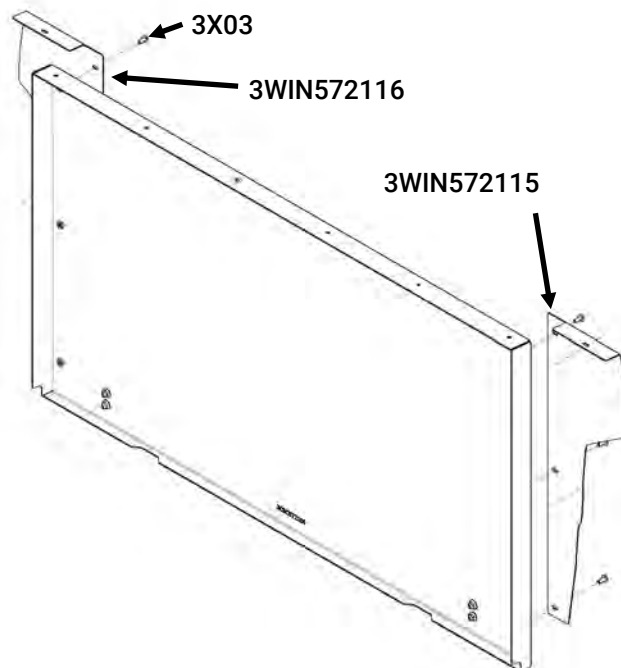

Figure 6
- A. Place the Driver Wing [3WIN572116] against the front of the panel, align the holes and fasten using (3) 1/4 -20 x 5/8" Phillips head screws [3X03]. (Figure 6)
- B. Repeat step A for the Passenger Wing [3WIN572115]. (Figure 6)